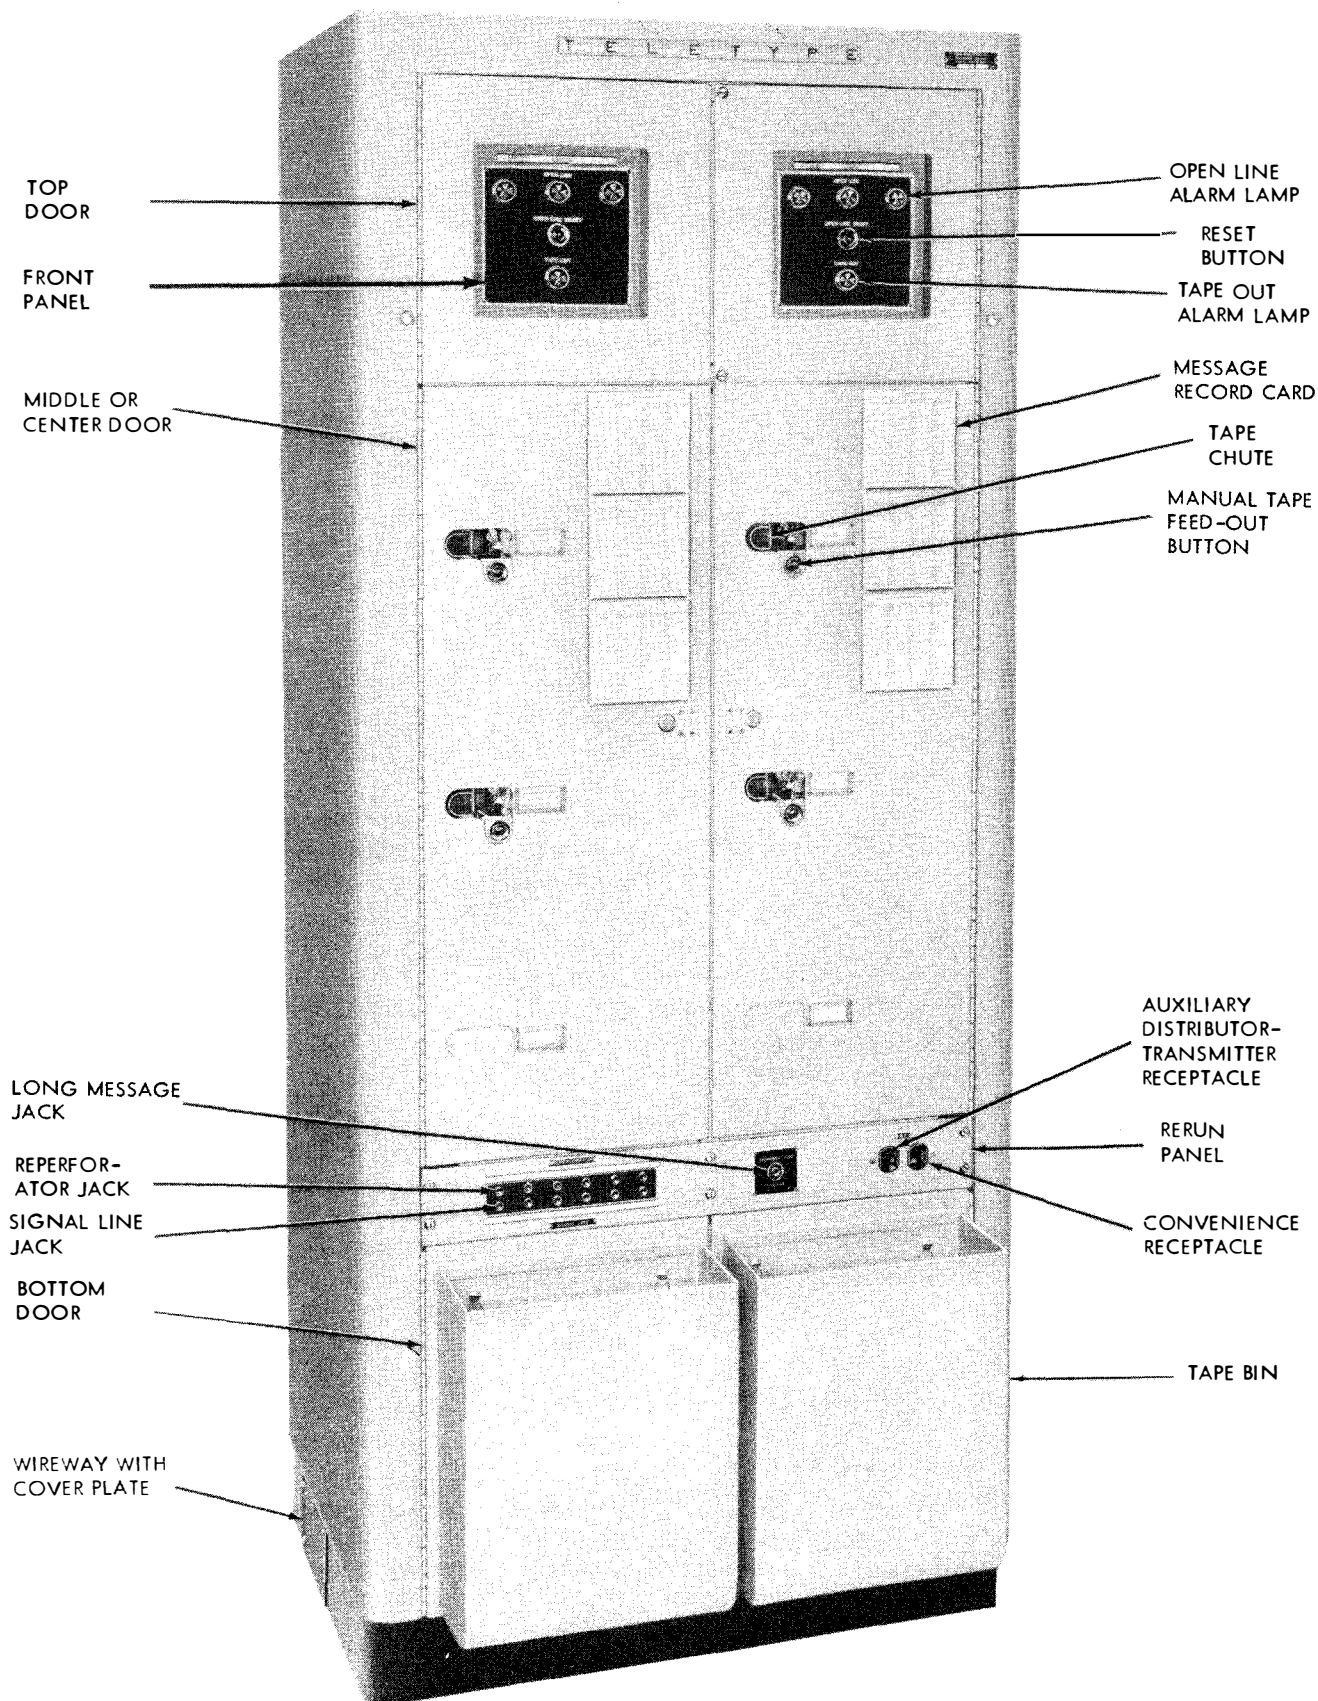

Figure 1-2. Electrical Equipment Cabinet CY-1523/FGC (Receiving), Oblique View
a. **CABINET, ELECTRICAL EQUIPMENT CY-1523/FGC (RECEIVING).**—This cabinet houses four Teletypewriter Reperforators, four Control Panels SB-357/FGC, one Power Supply PP-987/U, patching frame, signal terminal block, wireway, and associated parts (see figure 1-2). The reperforators are mounted on sliding shelves with rotatable trays which may be pulled out from the front or rear, depending upon how the shelves and slides have been installed. Interconnection between the components of the receiving group is achieved by cables with plugs. The front of the cabinet has six doors hinged at the side, one pair enclosing the upper section, a second pair enclosing the shelf section, and the third pair enclosing the bottom section. Attached to the front of each bottom door is a tape bin to collect the perforated tape as it comes out of the reperforators. The two upper doors form the front panels. A corresponding rear panel is mounted at the top on the rear of the cabinet, the controls of which are wired in parallel with those on the front panels. Each panel contains OPEN LINE alarm lamps, RESET buttons, and TAPE OUT lamps. The receiver group cabinet is approximately 77 $\frac{3}{8}$ inches x 33 inches x 24 inches, and weighs approximately 750 pounds including the components mounted in the cabinet.